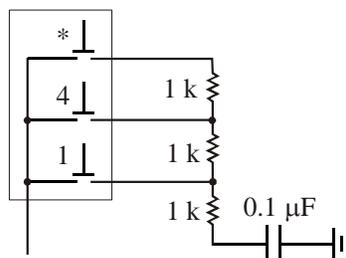

Figure 11.7 Alternative wiring for single-column keypad RC circuit
**NOTE - Since we are using only one column of the keypad, the alternative RC circuit wiring shown in Figure 11.7, which uses only 1k resistors, is a good option (e.g., if 2k and 3k resistors are not available).**